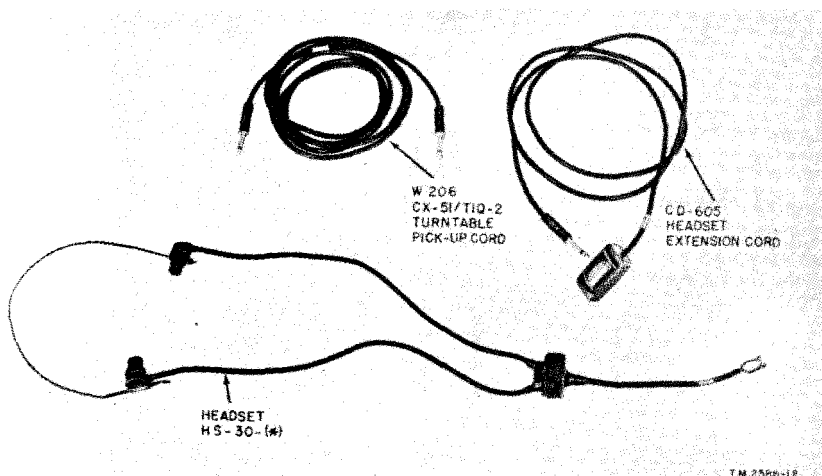

Figure 9. Turntable pickup cord, headset, and headset extension cord.
i. Headset HS-30-().* One Headset HS-30-(*) (fig. 9) is packed in the speaker case.